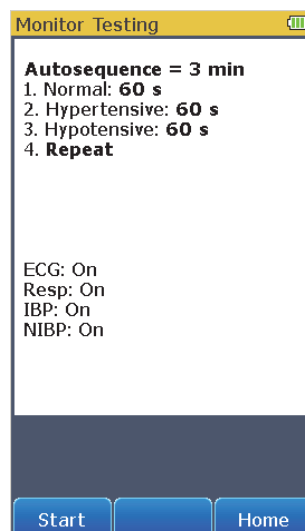

Figure 16. Monitor Testing Autosequence Screen
2. Touch one of the autosequence controls to show the autosequence steps in the display. The Monitor Testing autosequence is shown in Figure 16.